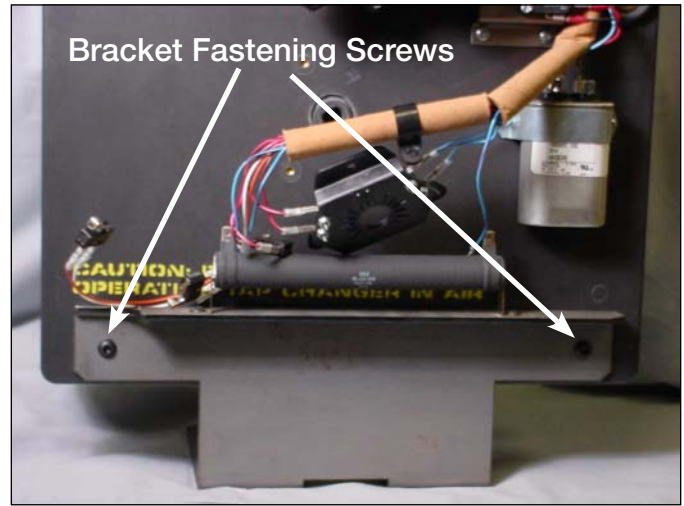

Figure 14.
6. Using a 5/32 Allen wrench loosen and remove the two pan head Allen screws from the tap changer-mounting bracket. See Figure 14.